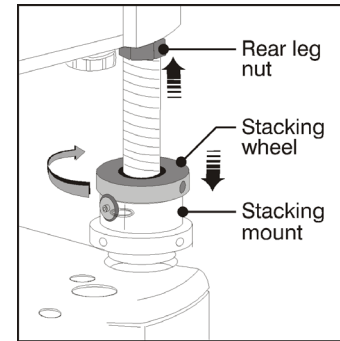

Figure 2-25 Secure All Hardware
- Turn all 3 stacking wheels until they are ***firmly secure*** against the rest of the stacking mount. See Figure 2-25.